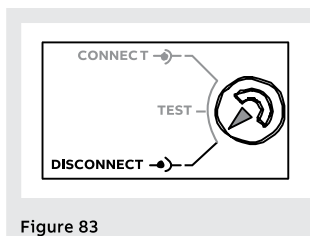

Figure 83
- circuit breaker in DISCONNECT position (see Figure 83)